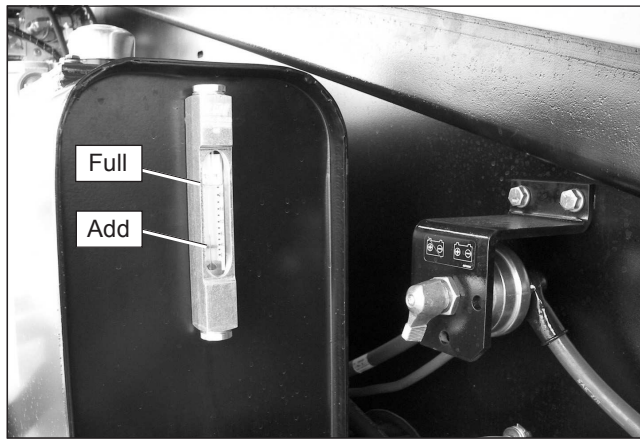

Figure 7.9 – Hydraulic Fluid Gauge
2. Open the door on the right side of the chassis to access the hydraulic fluid level gauge (refer to Figure 7.9).